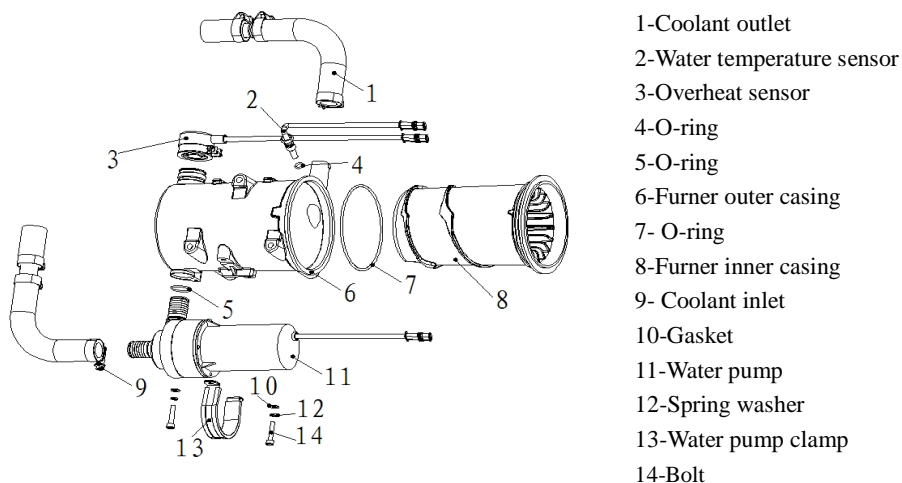
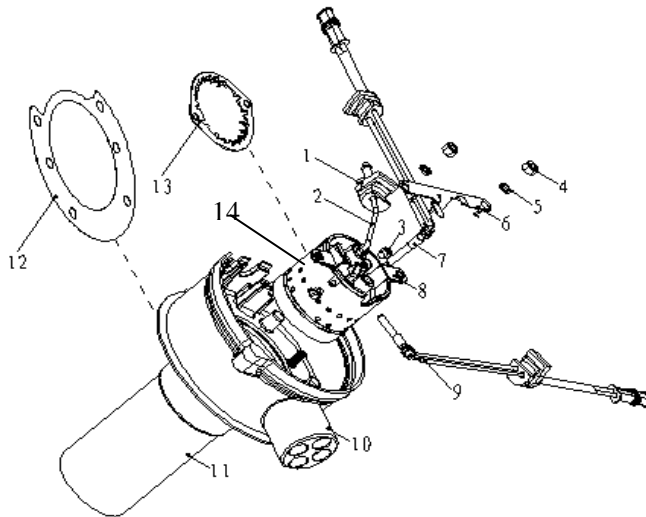

Fig 2
Fig.3
### 3.1 Coolant circulation system (Fig.2)
The main body of furnace consists of furnace outer casing 6 (Fig.2), furnace inner casing 8 (Fig.2), combustion chamber (Fig.3), etc.
2(Fig.3) and send it to combustion chamber to mix with combustion supporting air. The mixture is to be ignited by glow plug 9 (Fig.3).The fresh air from air intake pipe is blown into combustion chamber by combustion supporting fan for sufficient burning. The exhaust gas, after flowing through the muffler is to be released to the air by the exhaust pipe.
**Flame sensor** 7(Fig.3) is used to measure the temperature of the combustion chamber so as to judge if the combustion chamber has been ignited and keeps burning after the ignition.
Only special-purpose parts as shown in Fig. 2 can be used for installation of the heater. The positions and ways of fixing of various parts may vary from one automobile model to another, but the general principles shall be in conformity to the requirements of this chapter.